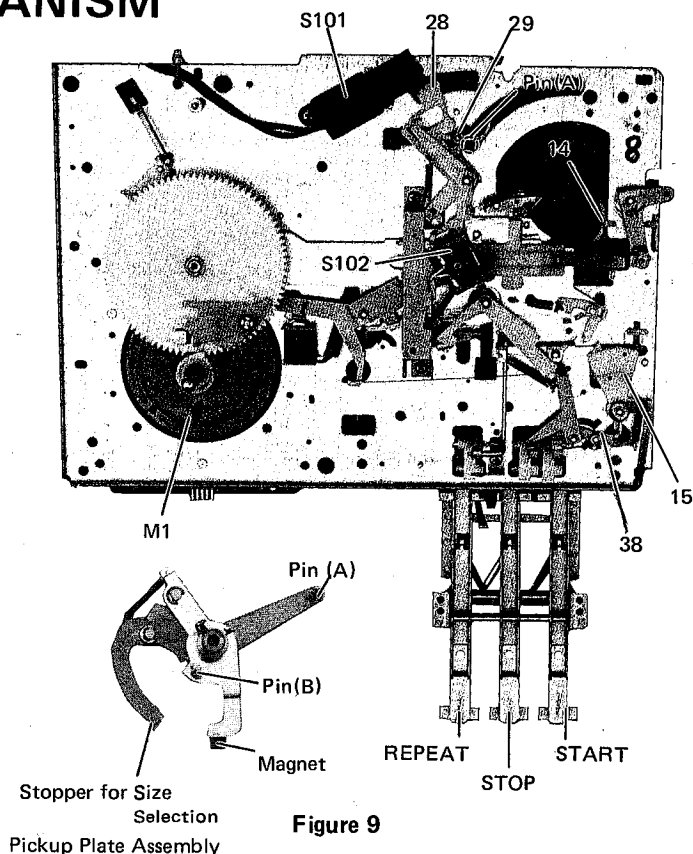

Figure 9
- (1) The Micro Switch (S101) turns DC Motor on and off. The Proximity Switch (S102) turns the current of solenoid on and off.
- (2) The right swing of Repeat Cam (15) slides down Lead-in Slider (14) and turns the Lever for Micro Switch (28) to left.
- (3) Pin (A) on the Pickup Plate Assembly pushes Lock Lever for Micro Switch (29) to release Lever for Micro Switch (28). Pin (B) carries out the Pickup Arm Assembly fixed to Pickup Plate Assembly at that pivot. (Figure 9)
- (1) Click Stopper (38) stops turning of Return Cam (15) to right.
- (2) Lever for Micro Switch (28) stays loose from Micro Switch (S101) to turn the Switch off to stop DC Motor (M1). (Figure 9)